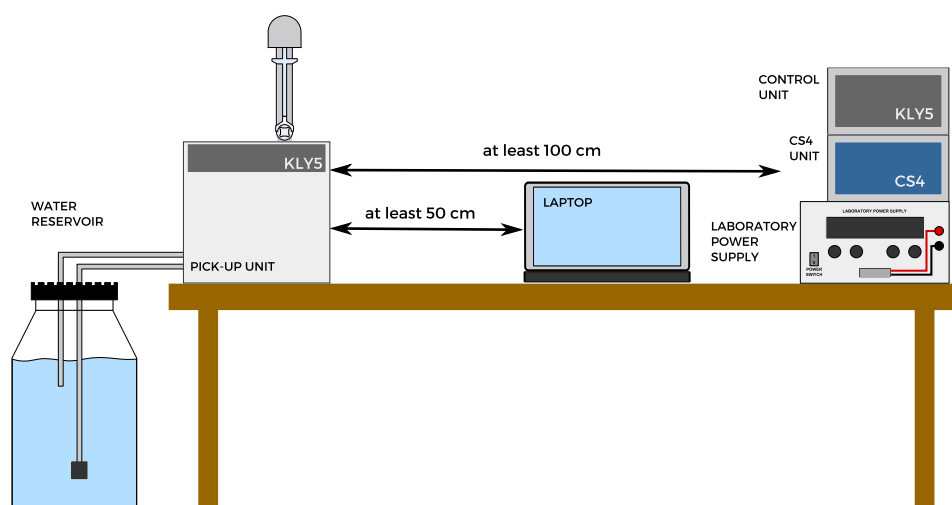

Figure 1: Recommended layout of KLY5/CS4 apparatuses parts
-  Fig.1 shows recommended layout of KLY5/CS4 apparatuses parts.